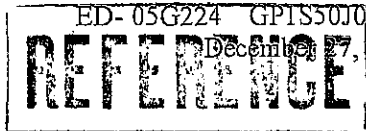

Fig.1 Forward current vs. ambient temperature
*1 The derating factors of absolute maximum ratings due to ambient temperature are shown in Fig. 1, 2, 3.